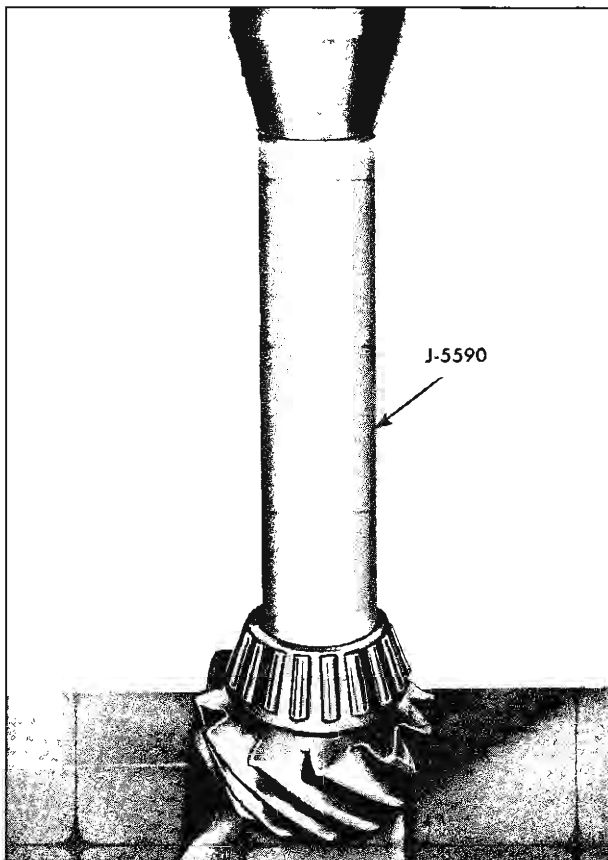

Fig. 23—Installing Rear Pinion Bearing Cone and Roller Assembly
15. Install new cone and roller assembly (fig. 23), using Tool J-5590. Press cone against shim and rear face of pinion.